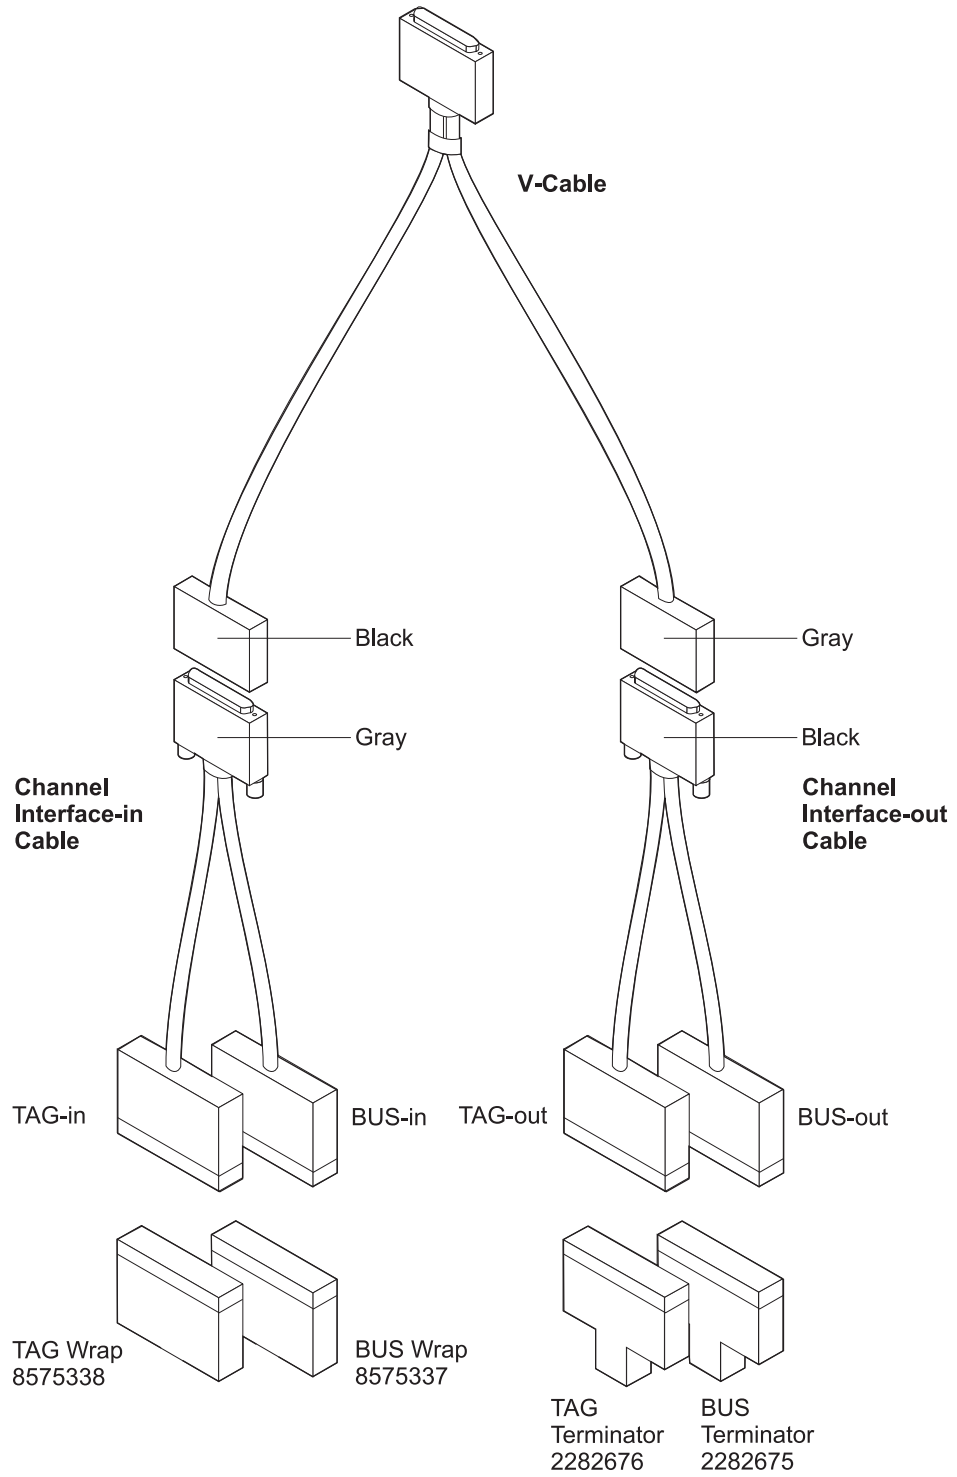

Figure 3-8. All Cables Wrap Test Connections
4. V-cable, Channel Interface-in, and Channel Interface-out, see Figure 3-8 on page 3-12